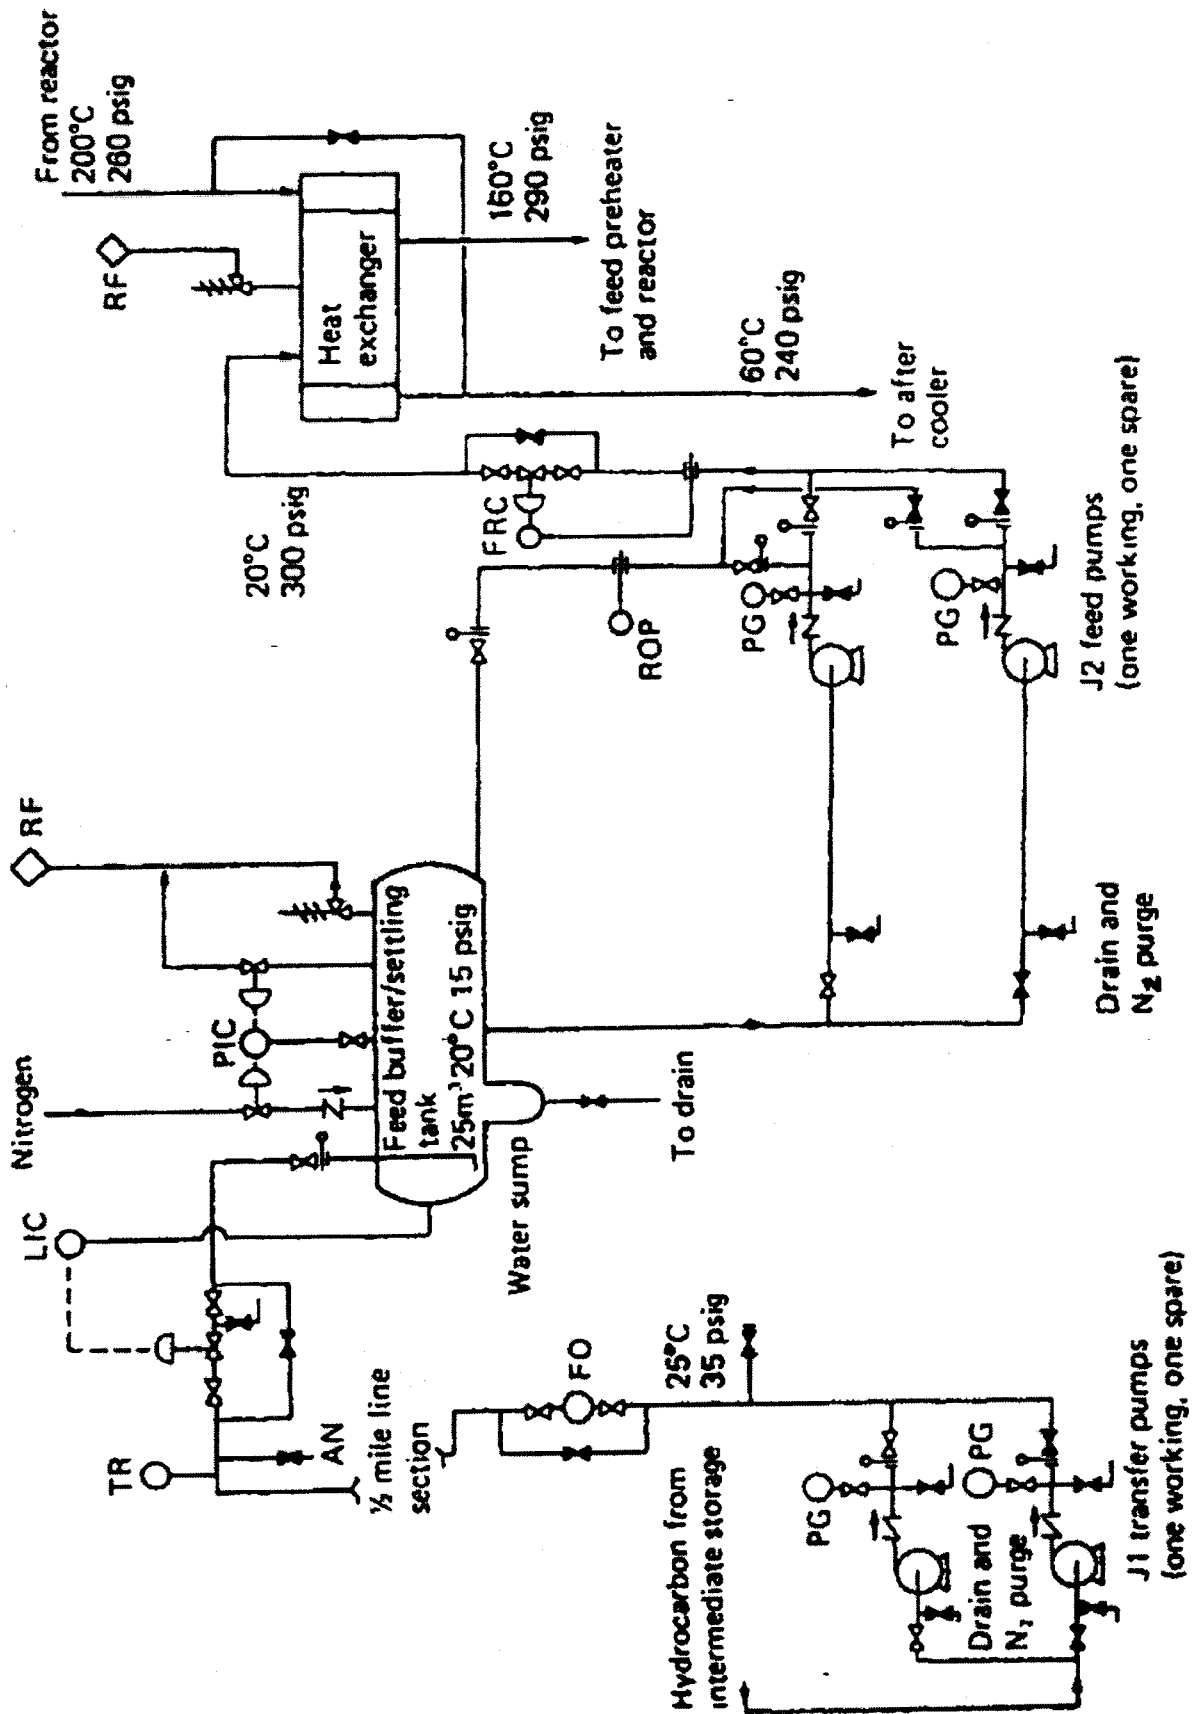

Figure Q. 3
3. Figure Q.3 shows the feed section of a proposed olefin dimerisation unit. An alkene/alkane fraction containing small amounts of suspended water is continuously pumped from bulk intermediate storage via a half-mile pipeline section into a buffer/settling tank. Residual water is settled out prior to passing via a feed/product heat exchanger and preheater to the reactor section. The water, which has an adverse effect on the dimerisation reaction, is run off manually from the settling tank at interval time. Residence time in the reaction section must be held within closely defined limits to ensure adequate conversion of the alkene and to avoid excessive formation of polymer. Perform HAZOP analysis using the following guidewords: